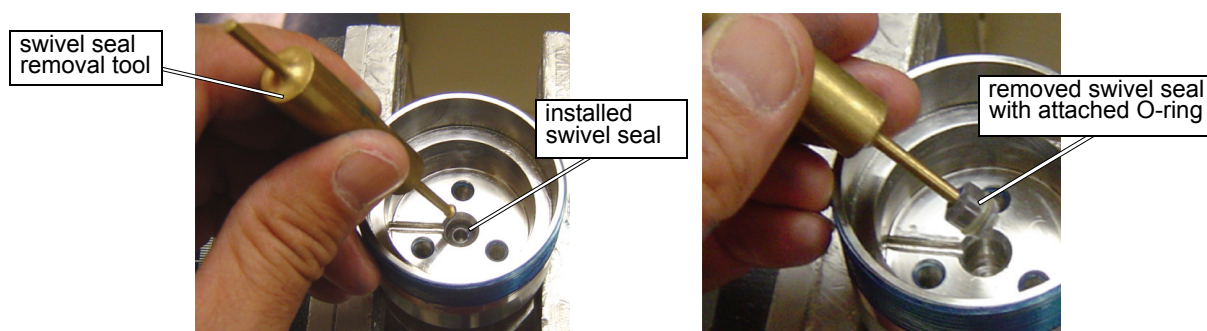

Figure C-9: Use the Removal Tool to Take Out the Swivel Seal and O-ring
3. Remove the **swivel seal** with the attached **O-ring**, using the swivel seal removal tool (Figure C-9). Insert the tool into the hole in the swivel seal and catch the bottom side of the seal with the tool. When caught, pull the tool upwards, removing the swivel seal and O-ring.